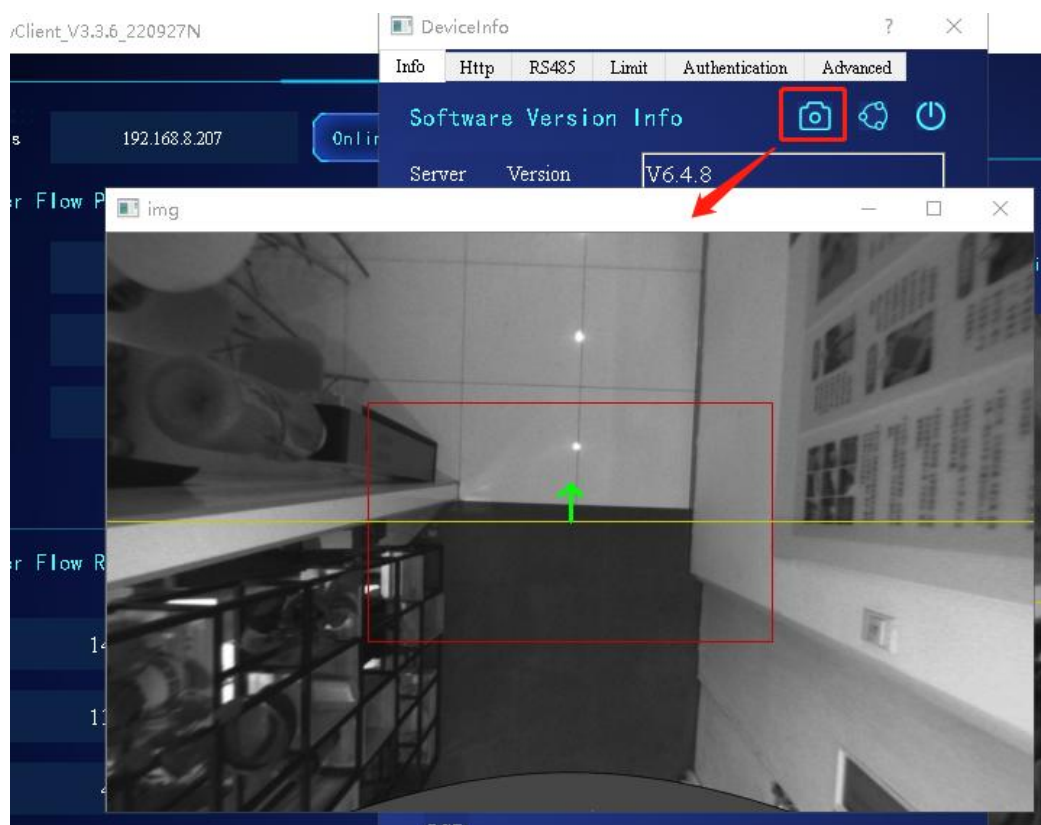

Figure 2-23 Camera shortcut function button
(1) Camera photo: After clicking this button, an image display window will pop up in a new window, as shown in Figure 2-23.